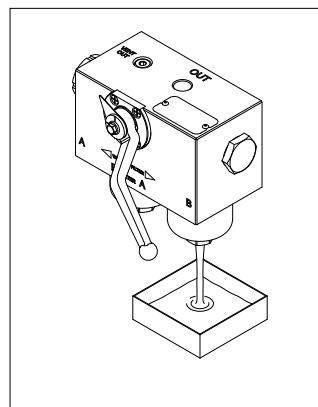

fig. 6
- (Fig. 6) Drain the operating fluid from the bottom of the bowl into the collection vessel